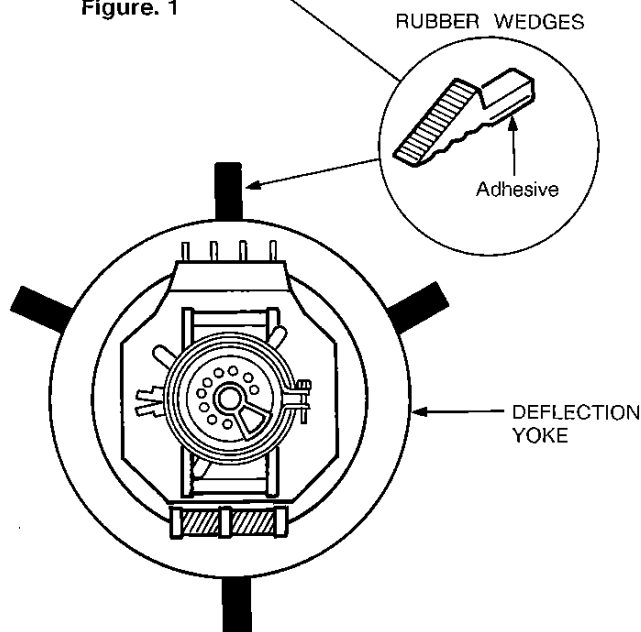

Figure 2.
10. Put four wedges into the space between the picture tube and the yoke to hold the yoke in the adjusted position. (See figure 2.) Do not tilt the yoke by excessive insertion of the wedge.